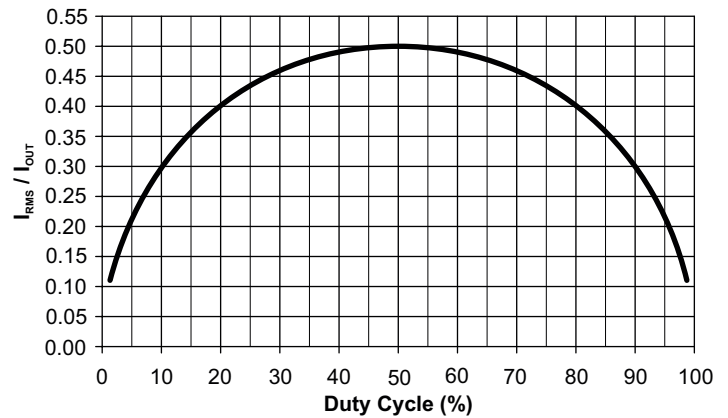

Figure 15: Input Capacitor Ripple vs. Duty Cycle
where the duty cycle D is $D \approx V_{OUT} / V_{IN}$. Figure 15 shows the normalized input capacitor RMS current versus duty cycle. To use this graph, simply find the operational duty cycle (D) on the x-axis and determine the input/output current multiplier on the y-axis. For example, at a 20% duty cycle, the input/output current multiplier is 0.40. Therefore, if the regulator is delivering 2.6 A of steady-state load current, the input capacitor(s) must support 0.40×2.6 A or 1.04 A_{RMS} .